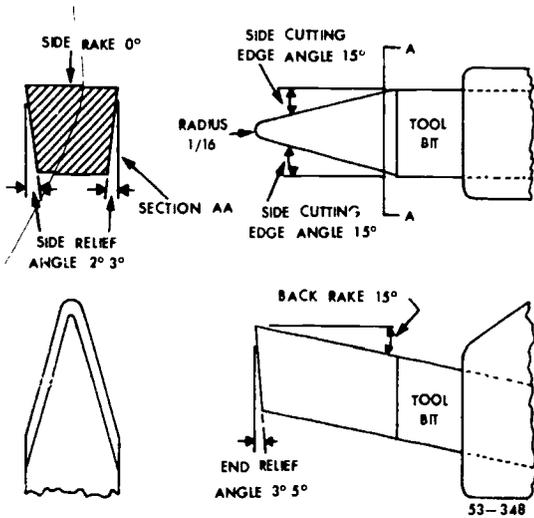
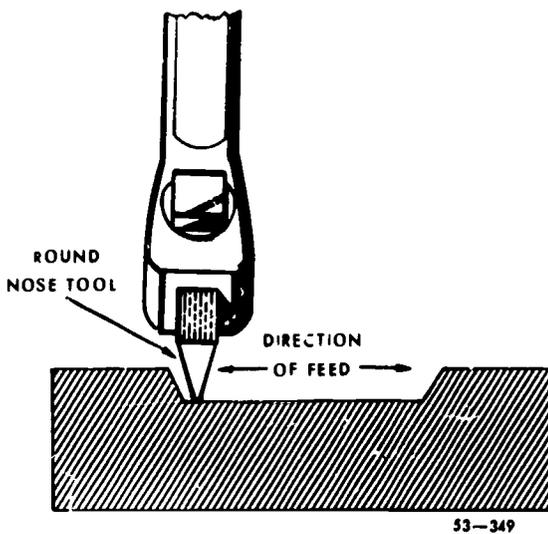

Figure 29 Roundnose tool angles
Figure 30. Roundnose tool.
d. Roundnose. The *roundnose tool*, shown in figure 29, has  $0^\circ$  side rake and cutting edges on both sides. These enable it to cut in both directions. You can use it to rough out metal between two shoulders, as shown in figure 30.